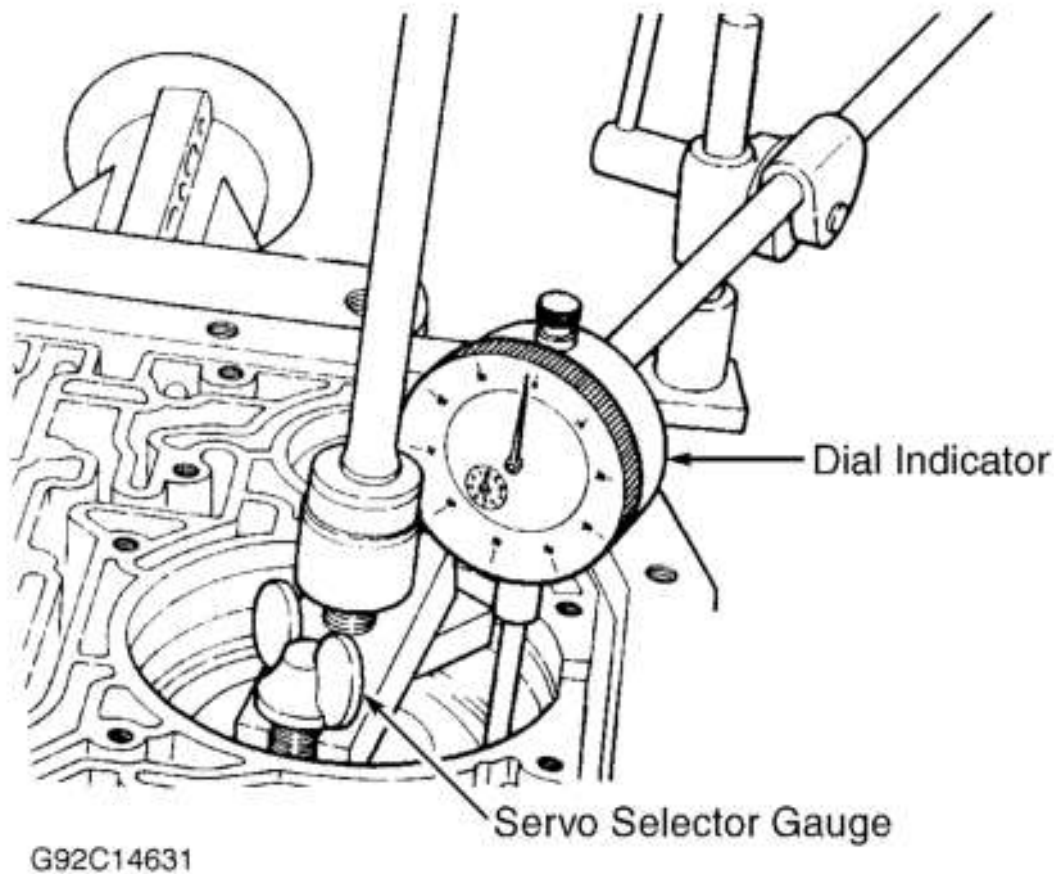

Fig. 48: Measuring Low-Reverse Servo Pin Travel
2. Tighten band apply bolt on tool to 50 INCH lbs. (5.6 N.m). Attach dial indicator. Position indicator stem on flat portion of servo piston. Zero dial indicator. See **Fig. 48** .